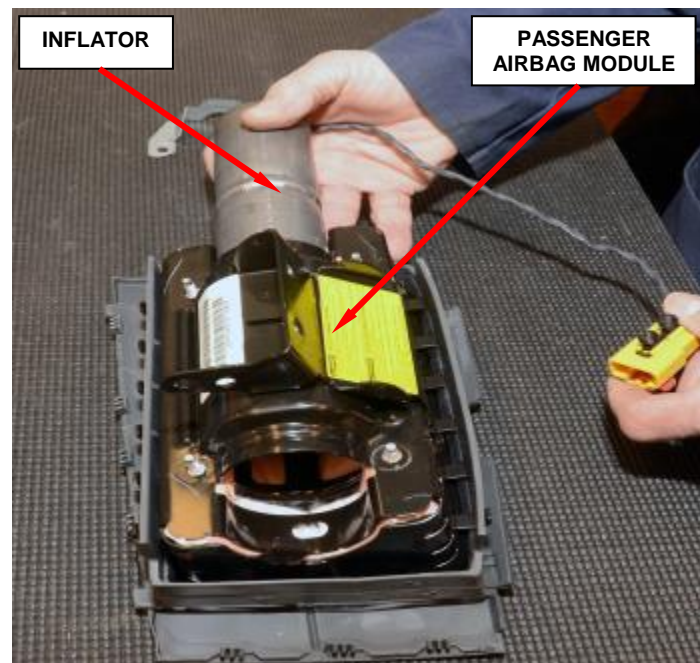

Figure 123 – Inflator Removal
f. Slide the inflator out of the passenger airbag module (Figure 123).